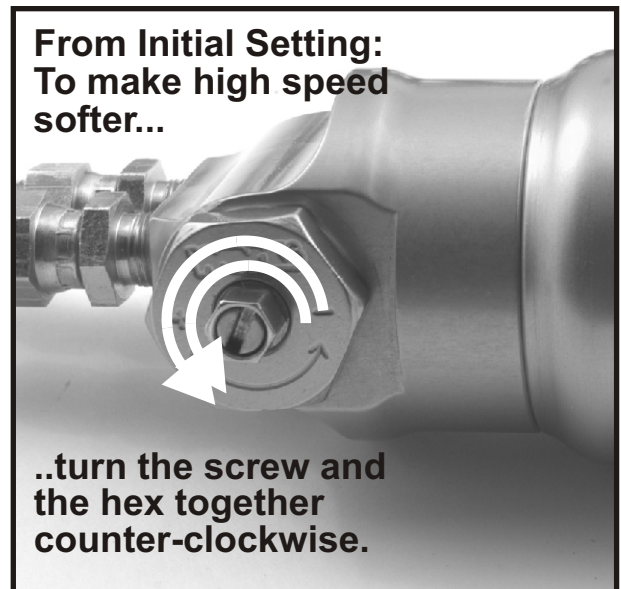

Fig. 3
6. If the high speed damping is excessive, turn the slotted adjuster screw and the hex counterclockwise--at the same time keeping the Sharpie marks aligned (See Fig. 3). There are three full revolutions of the high speed adjuster.